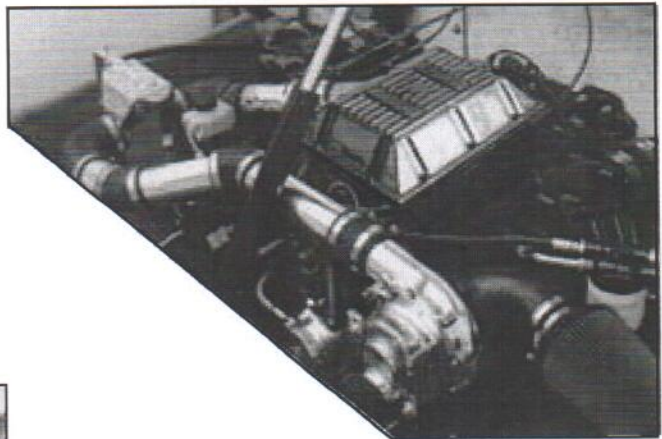

FIGURE E2
1. Review figures E2-E4 before starting. Place supplied 4" inlet elbow over ProCharger inlet. Position the elbow so that it points upward and/or outward to avoid the exhaust manifold and, if applicable, deck above when the filter is installed. If necessary, this elbow can be trimmed to obtain the proper clearance. Temporarily secure with a clamp. On the inlet elbow, position and mark the location of the breather fittings (the plastic 1/2" straight and 3/8" 90 deg fittings). The fittings should be positioned so that the straight 1/2" fitting routes to the port side breather and the 3/8" 90 degree fitting routes to the starboard side breather. Remove the elbow and drill a hole for the 1/2" fitting using a 7/16" drill bit and for the 3/8" fitting using a 5/16" drill bit. Insert the fittings and re-install the inlet elbow.
number of bends it has to make. Refer to figure E2 for an example. After you have determined the mounting location, bolt or screw the side tabs to the mounting surface. Included in the kit is a straight piece of strap. At the bottom of the intercooler is another tab. Bend and drill the strap so that it can be bolted to the bottom tab and to another mounting surface.